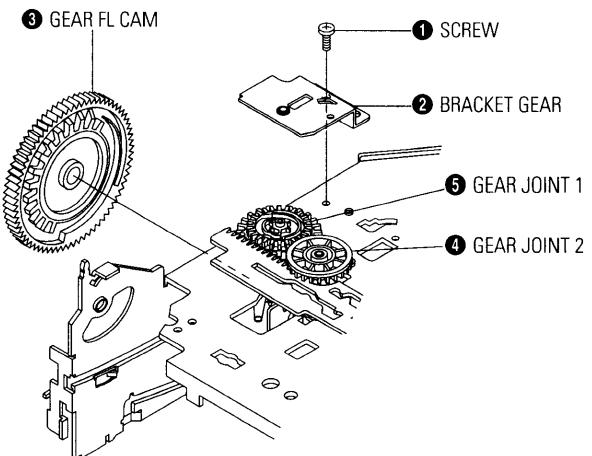

Fig. 4-14 Bracket Gear, Gear FL Cam, Gear Joint 1, 2 Removal
- 1) Release the Hook [A] in the direction of arrow and, remove the Holder Worm ①.
- 2) Remove the Gear Worm ②.
- 3) Remove the Gear Worm Wheel ③. (After removing the Gear FL Cam as shown Fig. 4-14)